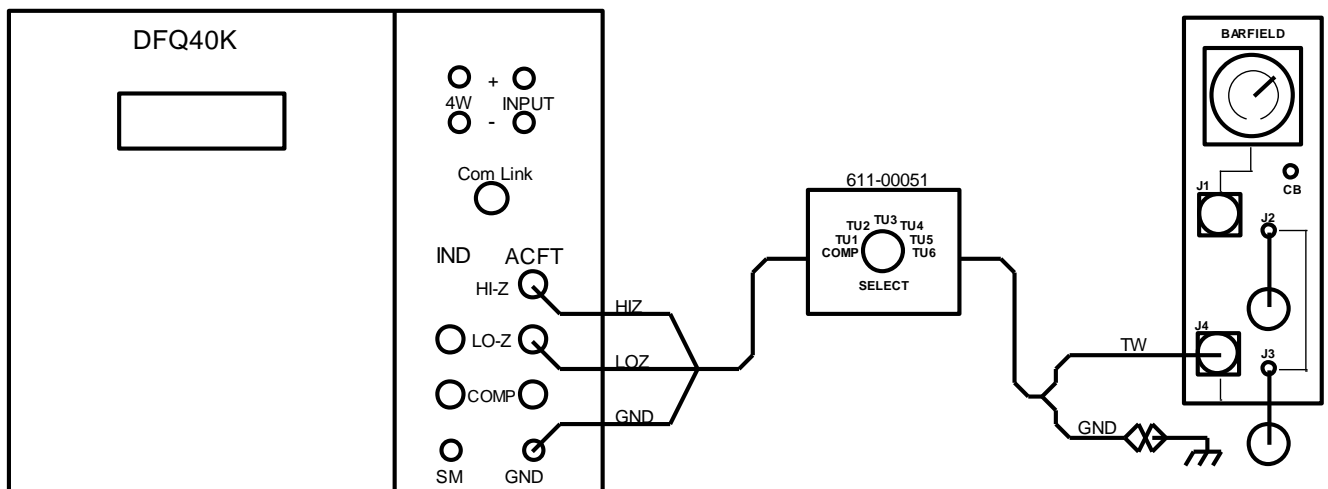

Figure 3 PROBE INSULATION CONFIGURATION
- (1) Connect Adapter Cable P/N 611-00051 as per Figure 3 and the following steps.